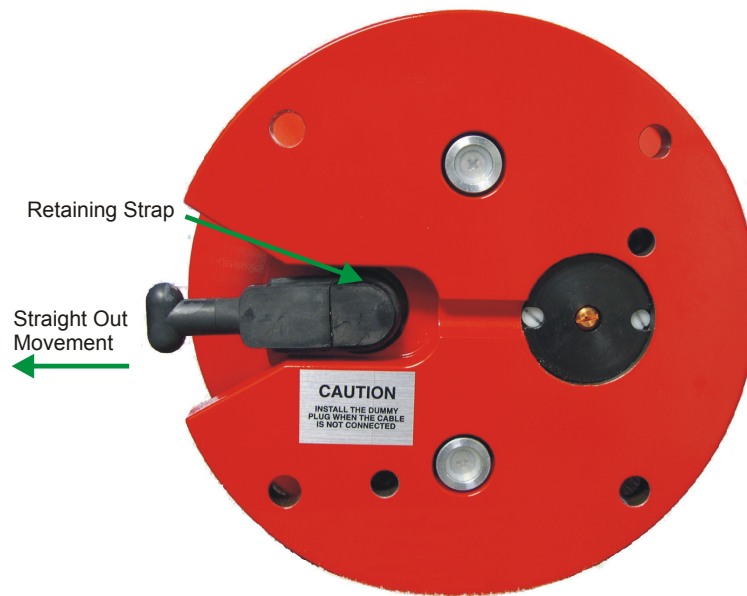

Figure 14. Removing the I/O Cable
- b. Grasp the cable close to the end-cap/mounting flange (see Figure 14, page 58). Your thumb should rest against the edge of the housing.